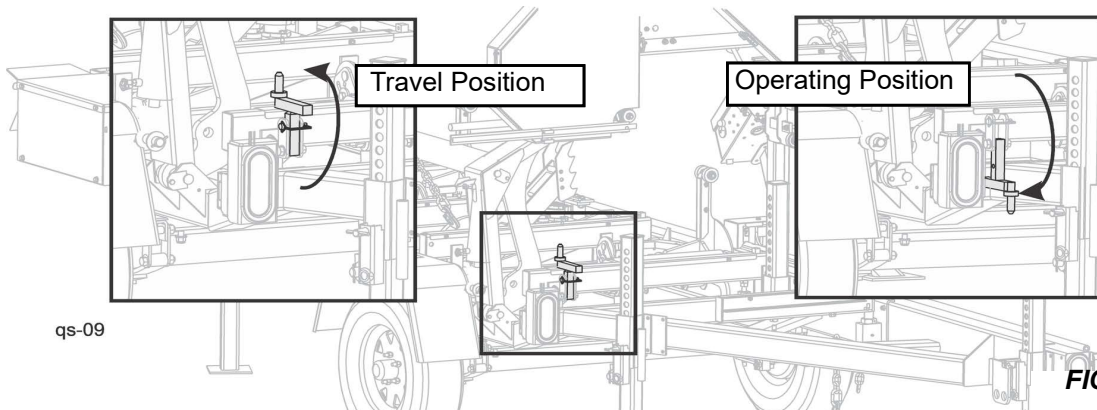

FIG. 3-7
- Lower the rest pin. See FIG. 3-7.